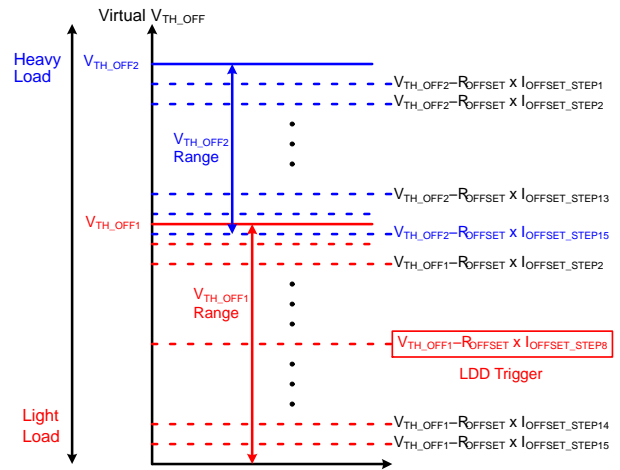

Figure 27. Light Load Detection
To guarantee stable operation under light load condition, FAN6248 adopts a light load detection function. The modulation current  $I_{OFFSET}$  is mainly used for the adaptive dead time control. When the output load is heavy,  $I_{OFFSET\_STEP}$  declines due to large  $di/dt$  in the secondary side current to maintain 280 ns of  $t_{DEAD}$  in FAN6248HC(D). On the contrary,  $I_{OFFSET\_STEP}$  increases at light load condition by small  $di/dt$  of SR current. FAN6248 can detect light load condition by using this  $I_{OFFSET\_STEP}$  as shown in Figure 27. When SR turn-off threshold voltage is  $V_{TH\_OFF1}$  and the modulation current is higher than  $I_{OFFSET\_STEP8}$ , the light load detection is triggered. In this mode, dead time target becomes to 320 ns of  $t_{DEAD\_LIGHT}$  in FAN6248HC(D) and 360 ns in FAN6248LC(D) version.